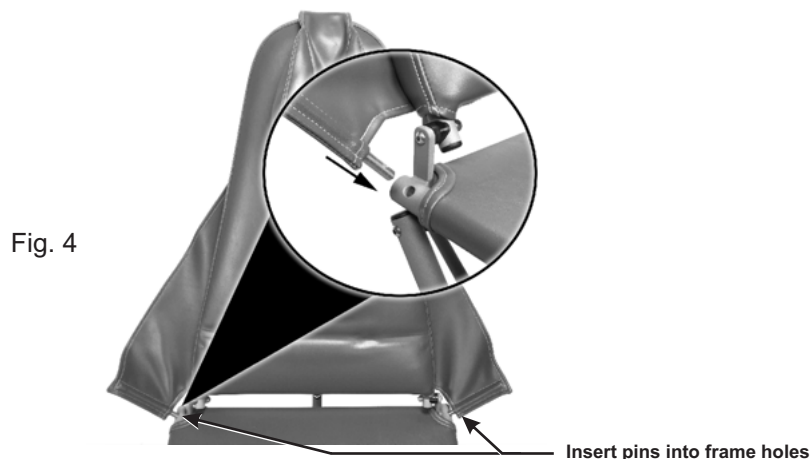

Fig. 4
4. Insert right and left arm sling pins into holes on the sides of the seat frame. (Fig. 4)